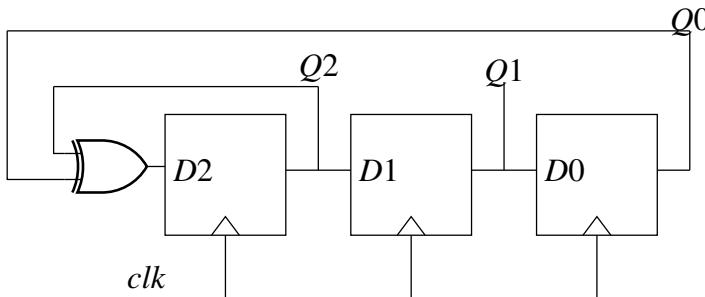

Fig. 5.4
4. In the circuit in Fig. 5.4, the clock(Clk) frequency provided to the circuit is 500MHz. Starting from the initial value of the flip-flop outputs  $Q2Q1Q0 = 111$  with  $D2 = 1$ , find the time after which  $Q2Q1Q0 = 100$ . (GATE EC 2021)